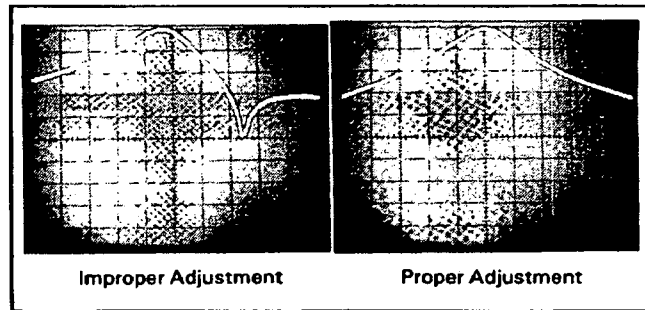

Figure 5-5. Symmetry Adjustment.
f. Adjust A5C15 (STAGE 5 PEAK RESPONSE ADJ.) to move the peak to the center of the CRT screen. Recheck Step e and adjust A5C14 and A5C15 if necessary. See Figure 5-5 for a properly adjusted display.